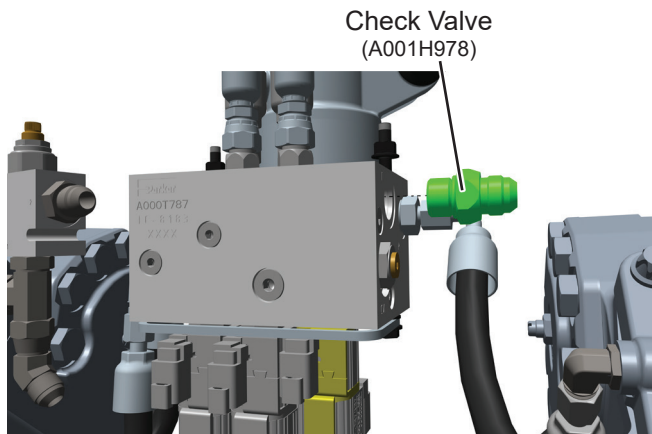

Figure 7. Chute Manifold Check Valve Installation
9. Install check valve in chute manifold where inner T-fitting was removed in Step 8. See Figure 7. Final tighten check valve to 58 ft. lbs.